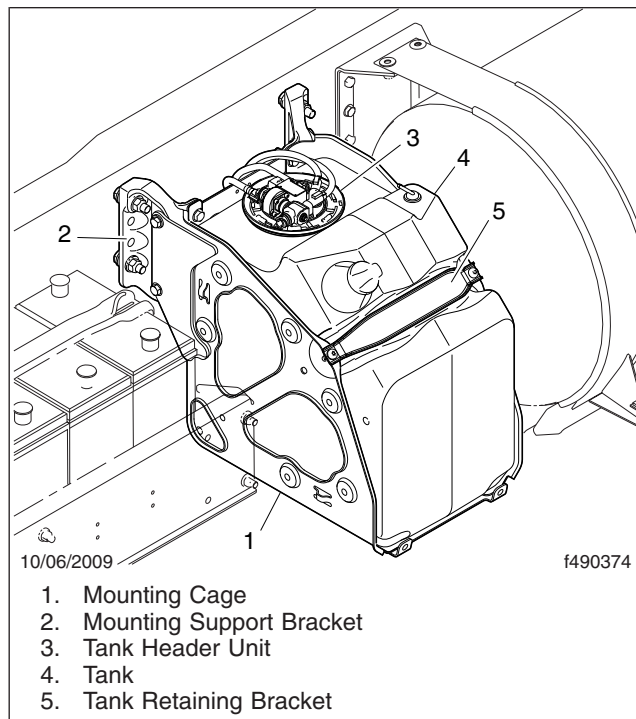

Fig. 6, 10-, 11.5-, or 15-Gallon DEF Tank Mounting Assembly
9. Remove the fasteners that secure the tank retaining bracket to the tank mounting cage. See Fig. 6.